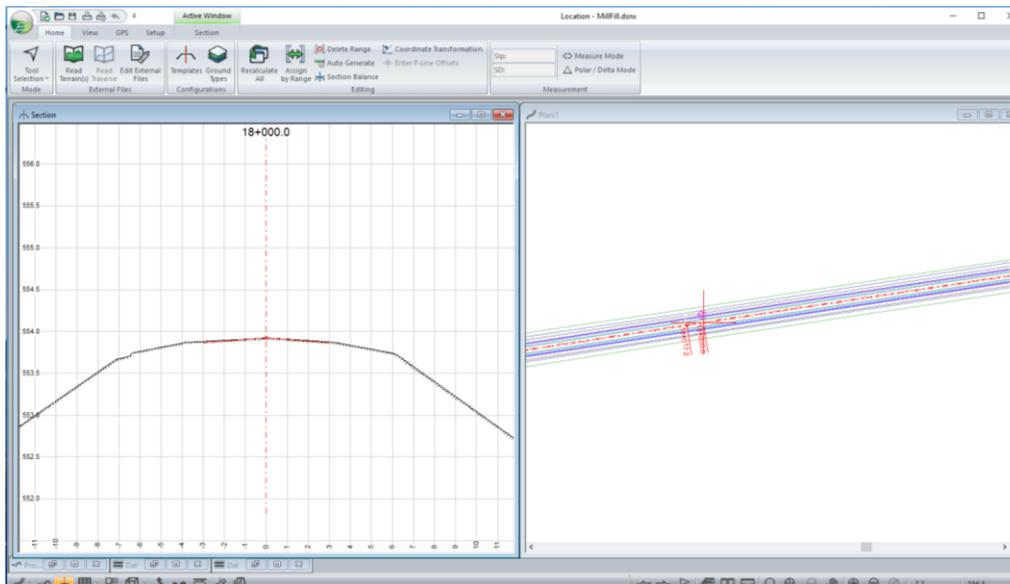

Figure 1 – *MillFill.DSNX*
1. Open the Location module. Open *MillFill.DSNX* (included with this example). The screen should now display a cross section and a profile view as shown in Figure 1.